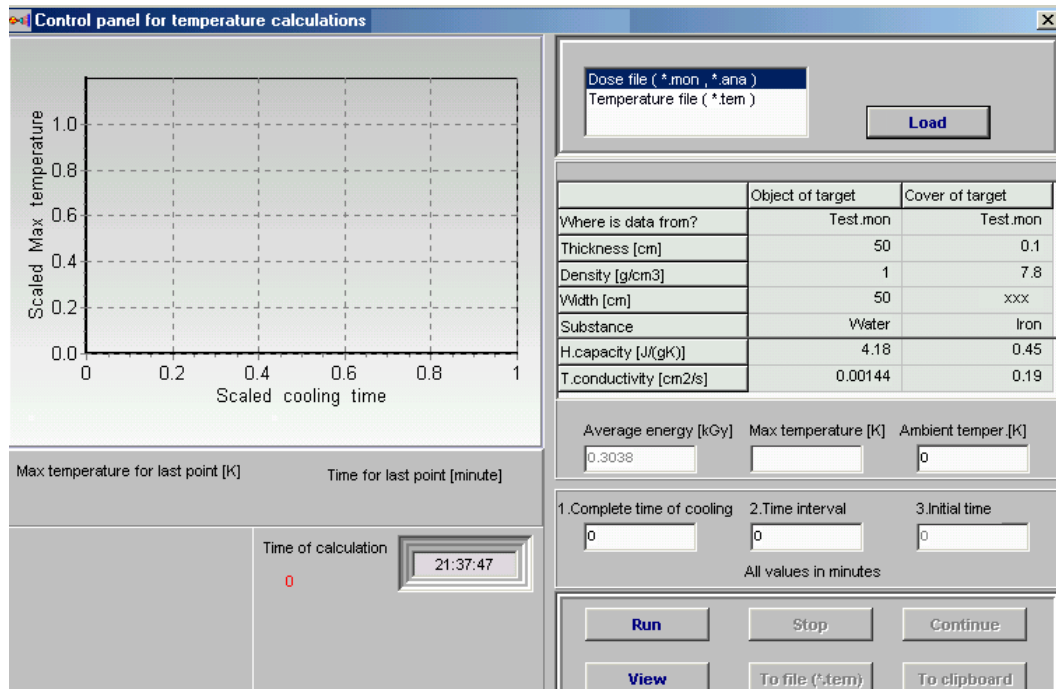

Fig. 21. Control panel for analysis of heating and cooling of an irradiated target.
- **Click** the button "**Temperature**" in the main form of the **Software ModeRTL**, to calculate of a temperature cooling of an irradiated target. (See Fig. 1). The main form "**Control panel for temperature calculations**" will be opened. (See Fig. 21).